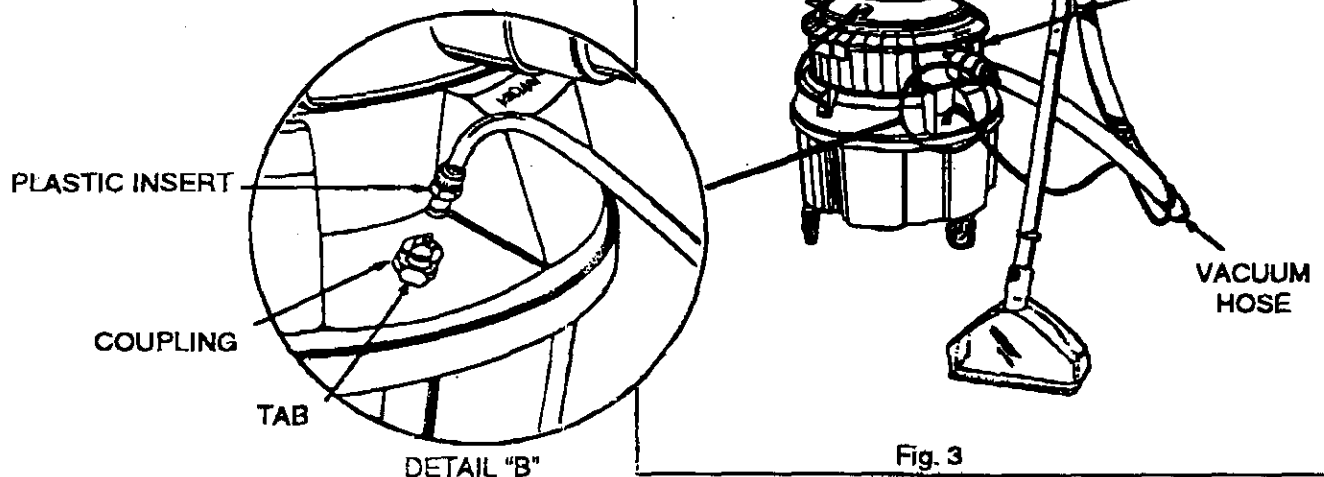

Fig. 3
4. Push the Solution Tube Quick-Disconnect Nut onto Trigger Valve. Twist clockwise to lock. See DETAIL "A" - Fig. 3.
7. Insert the Plastic Insert of the Solution Tubing into the Coupling of the Solution Tank. See DETAIL "B" - Fig. 3. NOTE: To remove the Plastic Insert depress the Tab and gently pull on the Plastic Insert. Be careful to pull on the Plastic Insert and not the Tubing as damage may occur.